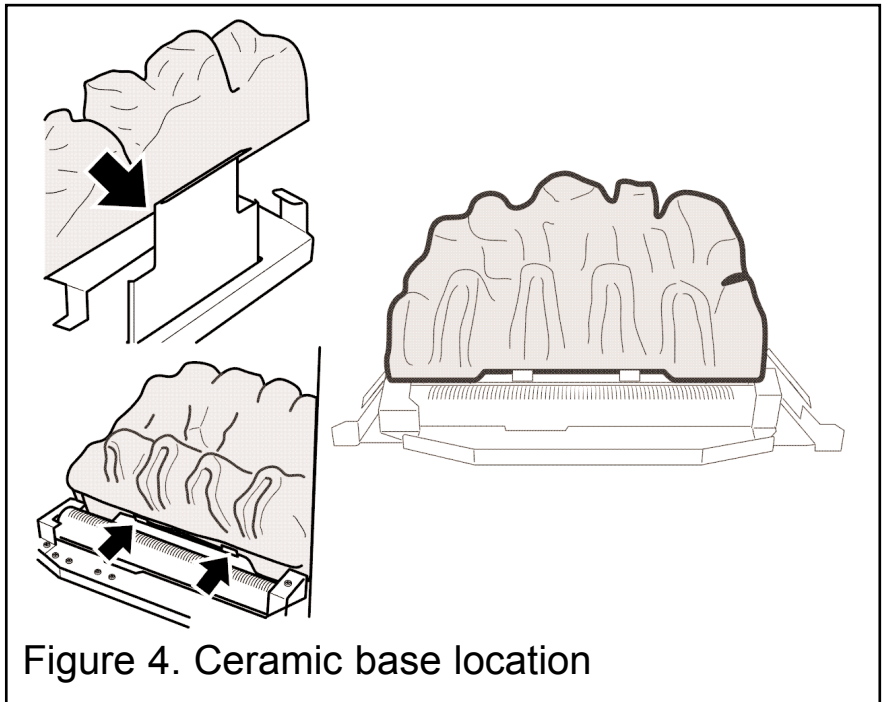

Figure 4. Ceramic base location
1. Place the ceramic base coal in the burner compartment. The bottom rear face of the coal should rest **against** the angled ledge at the back of the burner tray. ***The coal does not rest on top of the angled ledge.*** The bottom front recess of the coal base should locate against the tags at the front of the ceramic support. (See figure 4).